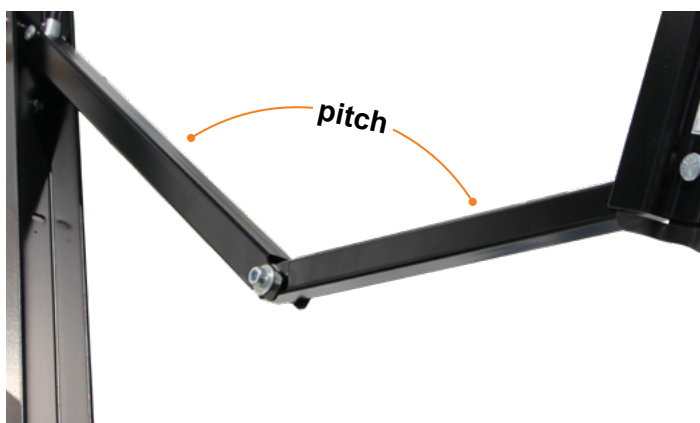

Fig.13
3. Choose the side of the awning for optimum shade or convenient water runoff. Pull downward on the joint of the pitch arm until desired pitch is set (**Fig.13**) to allow for water runoff.